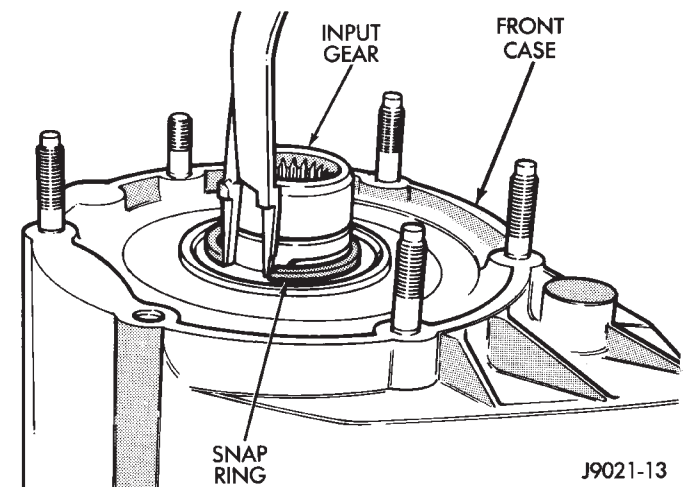

Fig. 24 Removing Input Gear Snap Ring
(36) Remove input gear snap ring (Fig. 24).